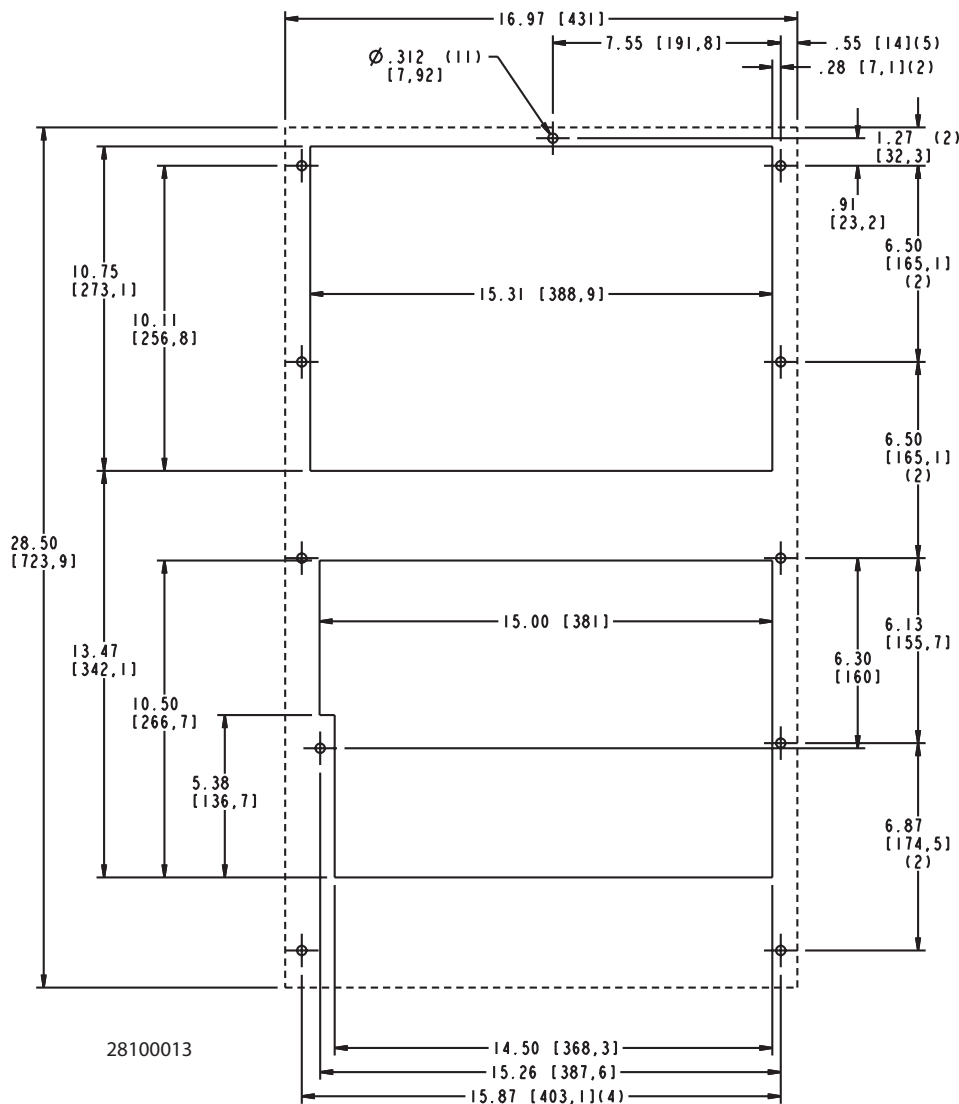

Figure 2
2. Using the mounting gasket kit provided with the unit, install gaskets to the air conditioner, see Figure 2.
4. Allow unit to remain upright for a minimum of five (5) minutes before starting. CAUTION! Air conditioner must be in upright position during operation.